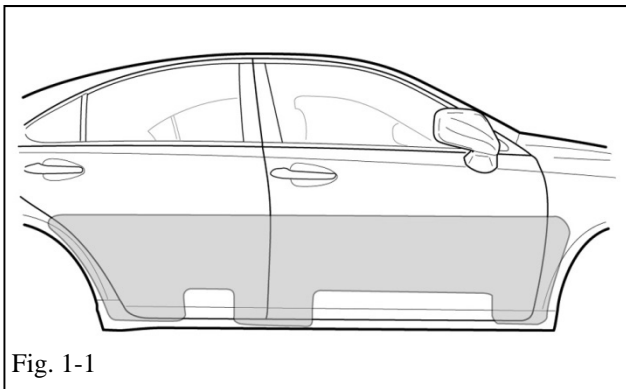

Fig. 1-1
- (c) Clean the areas of each door as shown in Fig. 1-1 using a ½ strength Simple Green solution (1 part Simple Green to 1 part water).